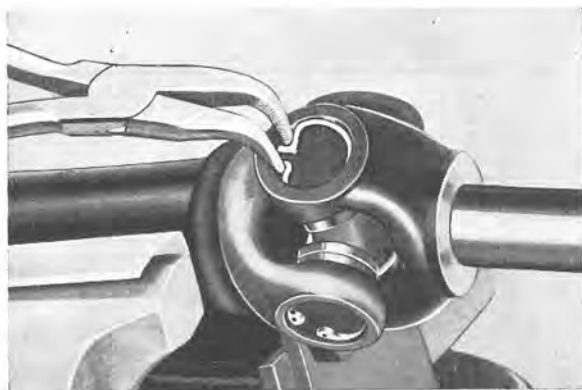

Fig. 4-131. Removing snap ring
1. Remove the snap rings securing the needle bearings in the yokes, see Fig. 4-131.